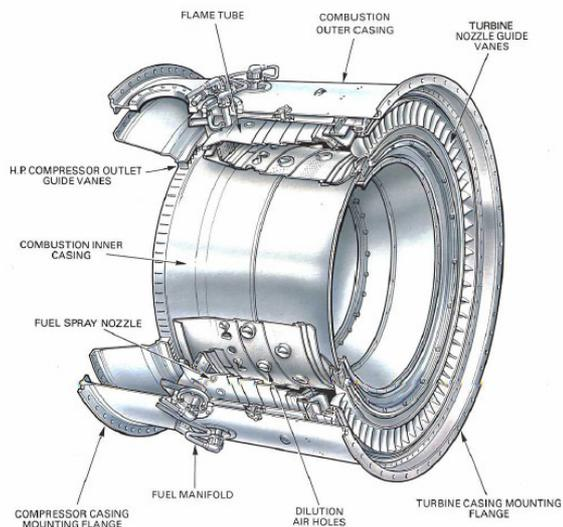

Fig. 3
c) **annular combustion chambers:** this type of combustor consists of a single flame tube with annulus form that is contained in a inner and an outer casings. The main advantage of this combustion chamber is that on same performances it is shorter than a tubular chamber or tube-annular with a remarkable saving of weight and cost of the losses of Production. The pressure leaks in this combustion chamber are lower with respect regarding the previous one with remarkable benefits on the engine thermodynamic cycle (fig. 3).